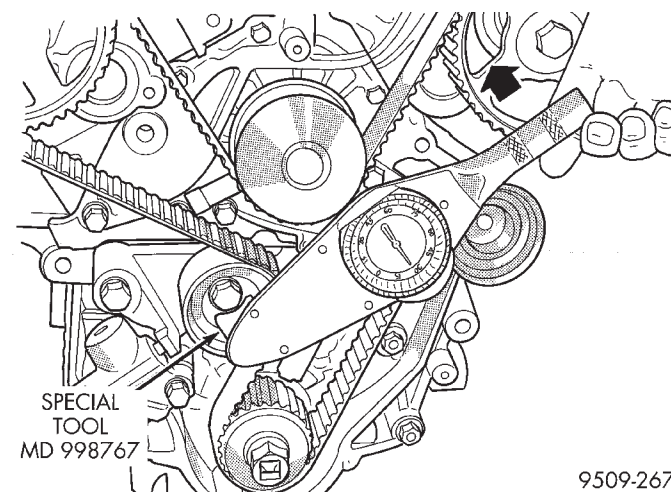

Fig. 58 Adjusting Drive Belt Tension
- (5) Apply rotating force to the crankshaft sprocket in the clockwise direction, to tension belt, check that all timing marks are aligned.
- (6) Using Special Tool MD 998767 and a torque wrench on the tensioner pulley. Apply 4.4 N·m (38.9 in. lbs.) of torque to tensioner (Fig. 58). Tighten tensioner pulley bolt to 48 N·m (35 ft. lbs.).
- (7) With torque being applied to the tensioner pulley install the tensioner to the tensioner pulley bracket and tighten fasteners to 23 N·m (205 in. lbs.).